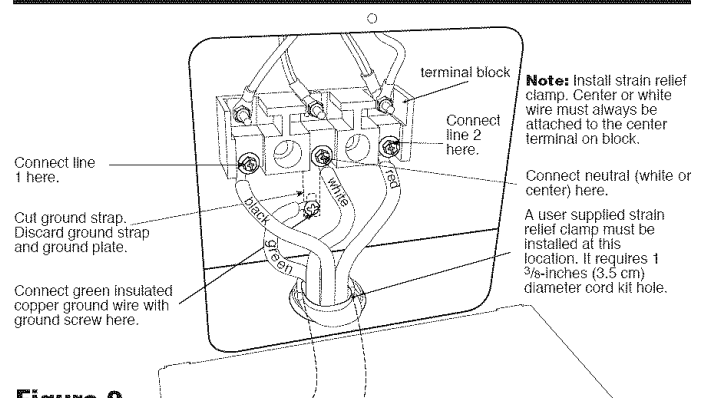

Figure 9
- 4 Connect the green ground wire lead with the eyelet to the frame of the range with the ground screw using the same hole in the frame where the ground screw was originally installed. See Figure 9.